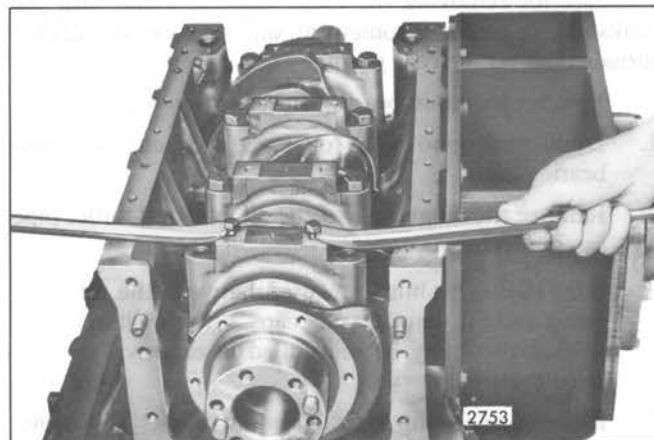

Fig. 2 - Removing Main Bearing Cap
4. Remove one main bearing cap at a time and inspect the bearing shells as outlined under *Inspection* (Fig. 2). Reinstall each bearing shell and bearing cap before removing another bearing cap: